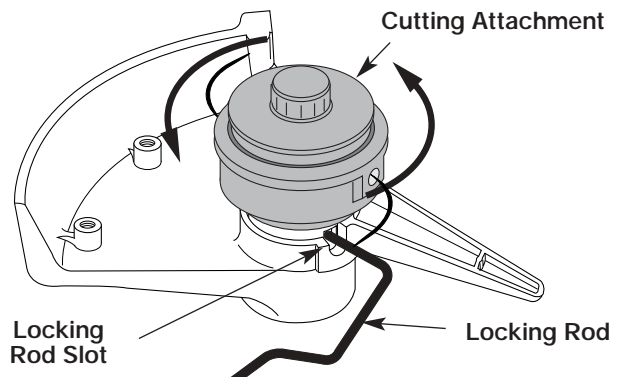

Fig. 10
3. While holding the locking rod, remove the cutting attachment by turning it counterclockwise off of the output shaft (Fig. 10). Store the cutting attachment for future use.